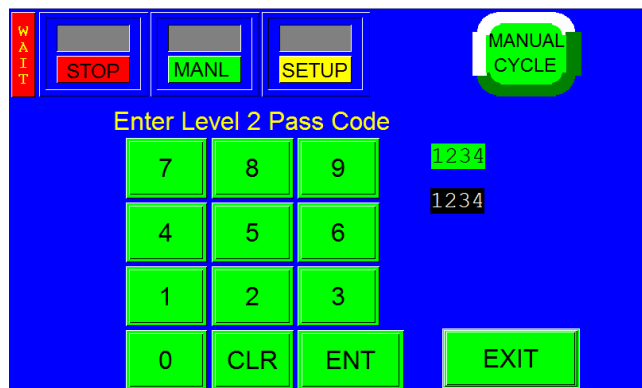

Figure 3-55
2. **Level 2:** This level pass code, when the pass code function is enabled, prevents the operator from accessing settings screens that affect the operation of the equipment. To change this code, press the **Level2 PW** button on the Password Setup Screen, enter a new code on the numeric keypad, and press the **ENT** button. See Figure 3-55.